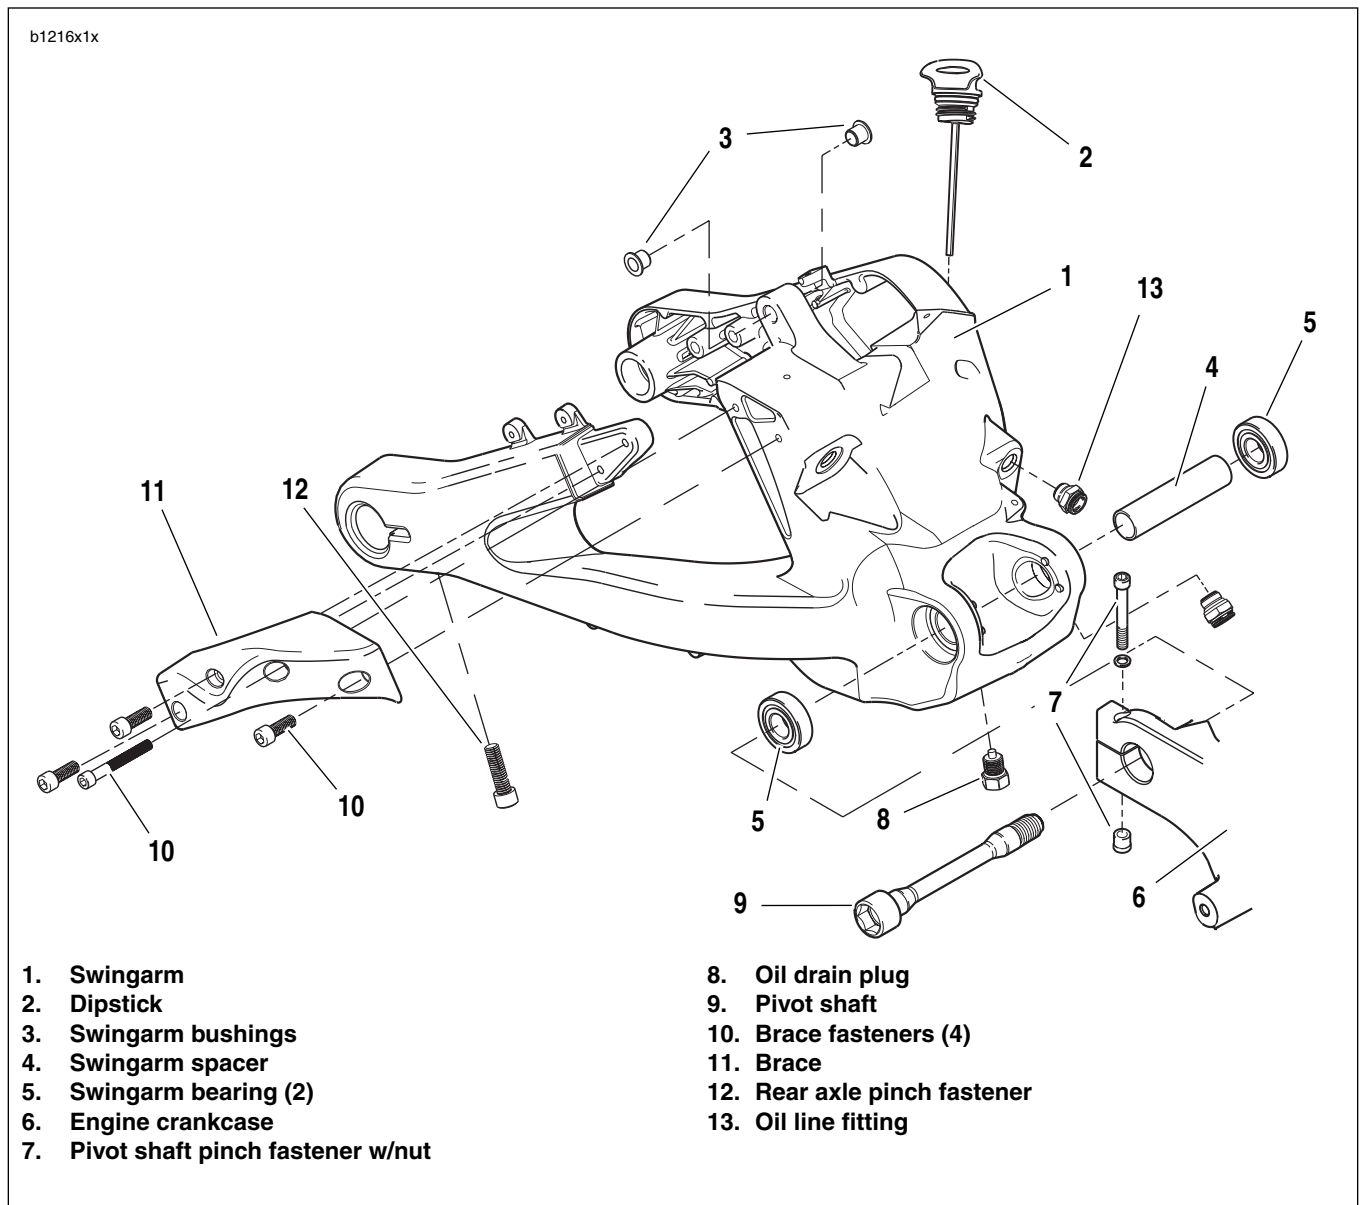

Figure 2-86. Swingarm Assembly
4. See Figure 2-86. Remove swingarm brace mounting fasteners (10).
5. Remove swingarm brace (11).
3. See Figure 2-86. Remove oil drain plug (8) and drain oil from swingarm. See Drain Oil in 1.5 ENGINE LUBRICATION SYSTEM.
12. See Figure 2-86. Loosen pivot shaft pinch fastener (7).
13. Remove pivot shaft (9) with the 7/8 in. hex tool from the tool kit.
See Figure 2-86. Remove swingarm bearings (5) only if replacement is required. The complete bearing assembly must be replaced as a unit when replacement is necessary. Do not intermix bearing components.
2. See Figure 2-86. Remove swingarm bearings (5) using slide hammer (SNAP-ON Part No. CJ1275 or equivalent) and 3/4 in. bearing remover and spacer.
3. Remove shock mount bushings (3) and sleeve.
1. See Figure 2-86. Install **new** shock mount bushings (3).
2. Install **new** bearings (5) and spacer (4) with BEARING INSTALLER (Part No. HD-44060) by lightly seating spacer.
4. See Figure 2-86. Install drain plug (8). Tighten to 29-34 ft-lbs (39-46 Nm).
1. See Figure 2-86. Align swingarm (1) in pivot of engine crankcase (6).
2. Install pivot shaft (9) with the 7/8 in. hex tool from the tool kit. Apply ANTI-SEIZE and tighten to 24-26 ft-lbs (32-35 Nm).
3. Tighten pivot shaft pinch fastener (7) to 17-19 ft-lbs (23-26 Nm).
1. See Figure 2-86. Install swingarm brace (11) with swingarm brace mounting fasteners (10) loosely. Do not tighten.
2. Tighten swingarm brace fasteners (10) to 25-27 ft-lbs (34-37 Nm).
4. Tighten rear axle pinch fastener (12) to 40-45 ft-lbs (54-61 Nm).